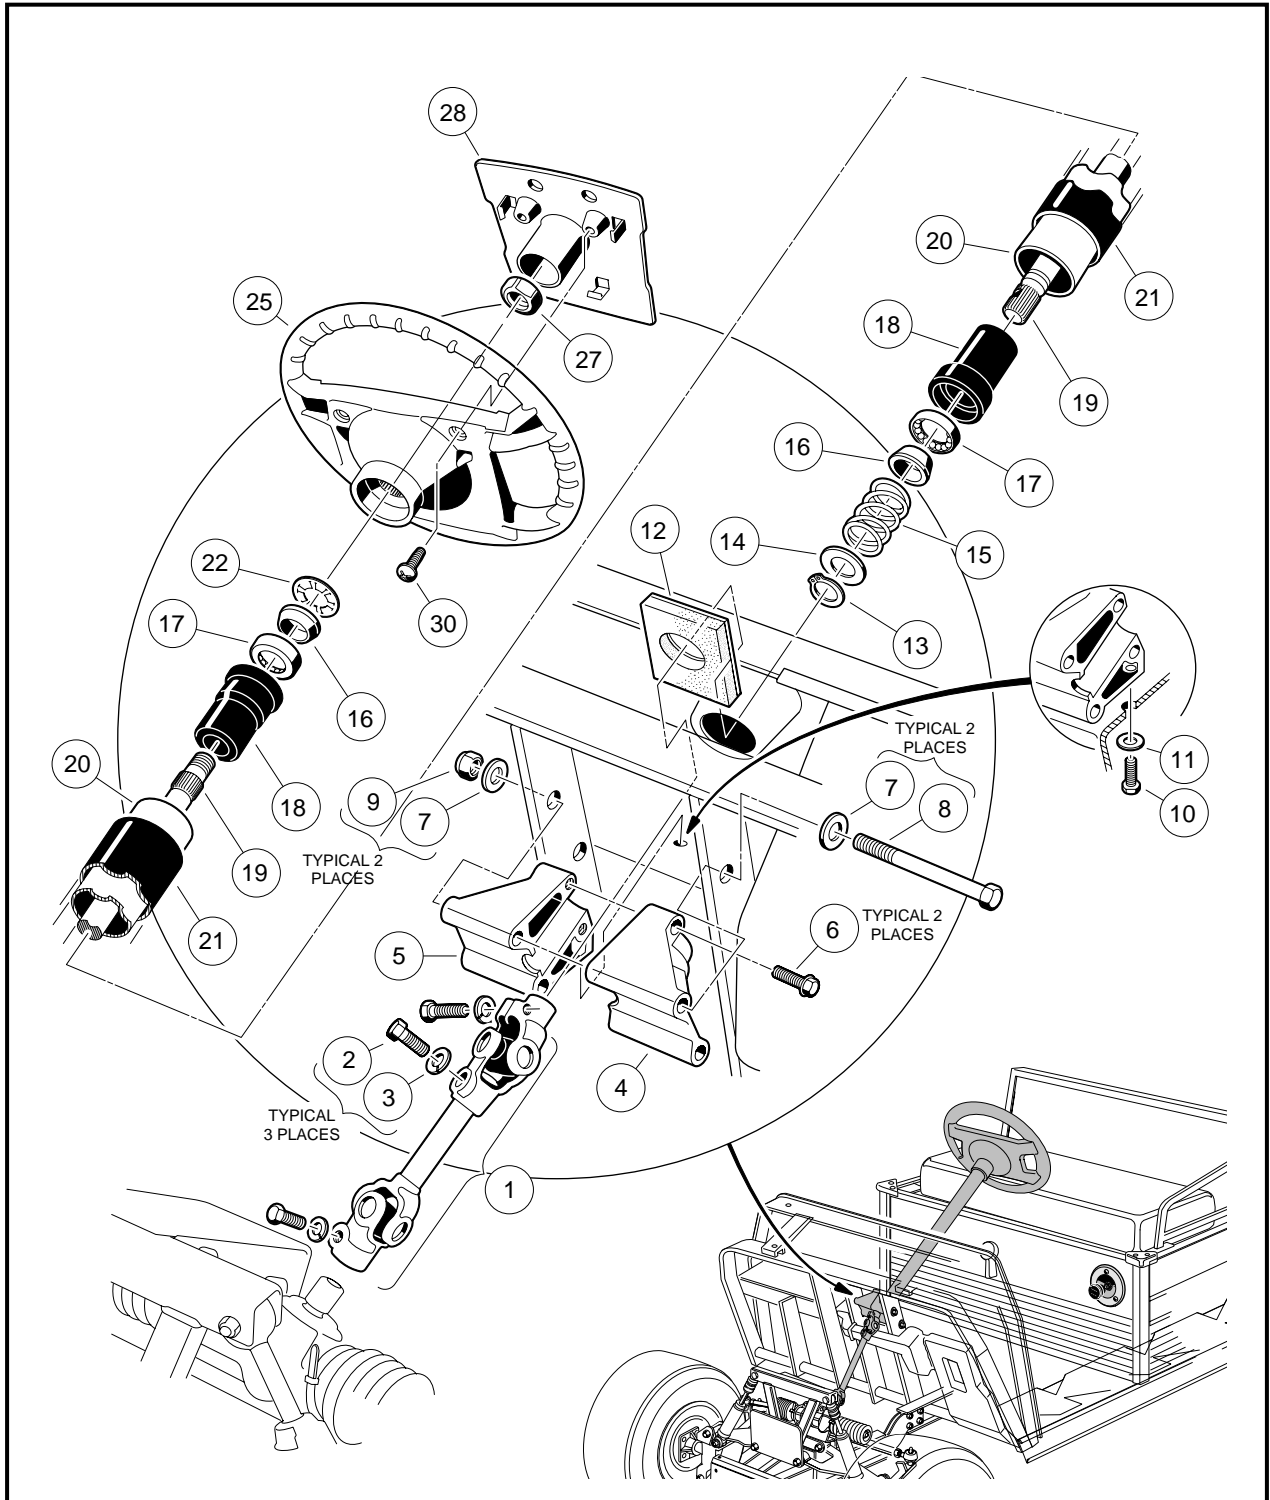

Figure 7-4 Steering Column
2. Remove the two mounting screws (30) and plate (28) (**Figure 7-4, Page 7-5**).
3. Match mark the steering wheel (25) and steering column shaft (19) so when the steering wheel is removed it can be placed back in exactly the same position on steering column shaft (**Figure 7-4, Page 7-5**).
4. Loosen the steering wheel nut (27) and back it off approximately 1/4 inch (6 mm). Do not remove the nut (**Figure 7-4, Page 7-5**).
- 5.6. Remove the steering wheel nut (27) and the steering wheel (25) from the steering column (20) (**Figure 7-4, Page 7-5**).
1. Install the steering wheel (25) on the splines of the steering shaft (19). Be sure to align the match marks placed on the wheel and steering column shaft in step 3 above (**Figure 7-4, Page 7-5**).
2. Install the steering wheel nut (27) and tighten to 13 ft-lb (17.6 N·m).
3. Install the steering wheel plate (28) and plate mounting screws (30) (**Figure 7-4, Page 7-5**). Tighten screws to 16 in-lb (1.8 N·m).
6. Remove the upper bolt (2) and lock washer (3) from the universal joint (**Figure 7-4, Page 7-5**).
7. Remove the nuts (9), bolts (8 and 10), and washers (7 and 11) from the steering column mount (4 and 5) (**Figure 7-4, Page 7-5**).
1. Remove screws (6) and mount (4 and 5) from steering column. Remove boot (12) (**Figure 7-4, Page 7-5**).
2. While supporting steering column (20) on a workbench, remove snap ring (13) from shaft (**Figure 7-4, Page 7-5**).
3. Remove the washer (14), spring (15), and wedge (16) (**Figure 7-4, Page 7-5**).
4. Turn the steering column over and slide the shaft out of the tube to expose the retaining ring (22). Use pliers to twist the retaining ring (22) until it breaks off, then remove the wedge (16) (**Figure 7-4, Page 7-5**).
5. Remove the shaft (19) from the bottom of the tube (20) (**Figure 7-4, Page 7-5**).
6. Use steering shaft (19) to push bearing seat (18) out from the opposite end of the steering tube (20) (**Figure 7-4, Page 7-5**).
7. Insert a flat blade screwdriver between the bottom of the outer race of the bearing (17) and the bottom lip of the bearing seat (18) and remove the bearing (17) (**Figure 7-4, Page 7-5**).
4. Insert the shaft (19) from the bottom of the steering tube (20) (Figure 7-4, Page 7-5).
- Install boot (12). Reinstall mount (4 and 5) onto the end of the steering column. Tighten bolts (6) to 20 ft-lb (27 N·m) (Figure 7-4, Page 7-5).
- Position the steering column assembly in the vehicle while inserting the steering column shaft into the upper universal joint (1). The flat portion of the steering shaft spline (19) must be aligned with the bolt hole in the universal joint (1) before sliding the spline into the universal joint. While holding the steering column in place, attach it to the frame using bolts (8) washers (7) and nuts (9) (Figure 7-4, Page 7-5). Thread the nuts onto the bolts but do not tighten them.
- Reinstall washer (11) and screw (10). Tighten to 20 ft-lb (27 N·m) (Figure 7-4, Page 7-5).
5. Install the bolt (2) and lock washer (3) on the upper universal joint and finger tighten.
6. Tighten the two nuts (9) and bolts (8) to 17 ft-lb (23 N-m) **(Figure 7-4, Page 7-5)**.
7. Tighten the bolt (2) on the upper universal joint to 15 ft-lb (20 N-m) **(Figure 7-4, Page 7-5)**.
8. Check the other bolts on the universal joint (1) to ensure that they are properly tightened to 15 ft-lb (20 N-m) **(Figure 7-4, Page 7-5)**.
5. Remove the bolt (2) and flat washer (3) on the upper universal joint, then remove the rack assembly and universal joint from the vehicle (**Figure 7-4, Page 7-5**).